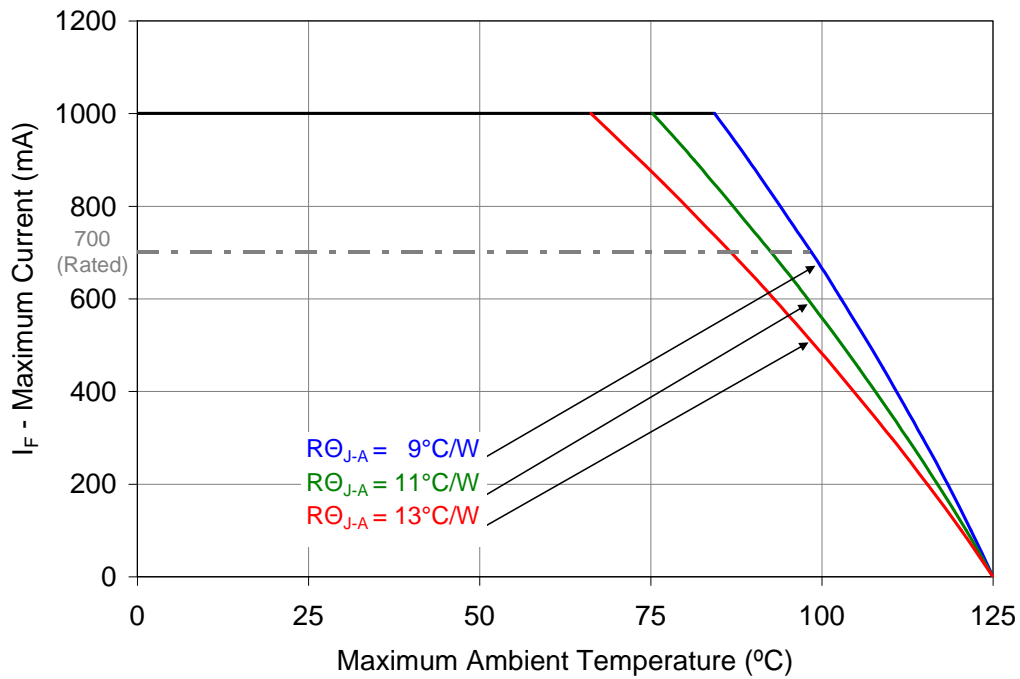

Figure 10: Maximum forward current vs. ambient temperature based on  $T_{J(\text{MAX})} = 125^\circ\text{C}$ .
- Maximum DC forward current is determined by the overall thermal resistance and ambient temperature. Follow the curves in Figure 10 for current derating.
Notes for Figure 10: